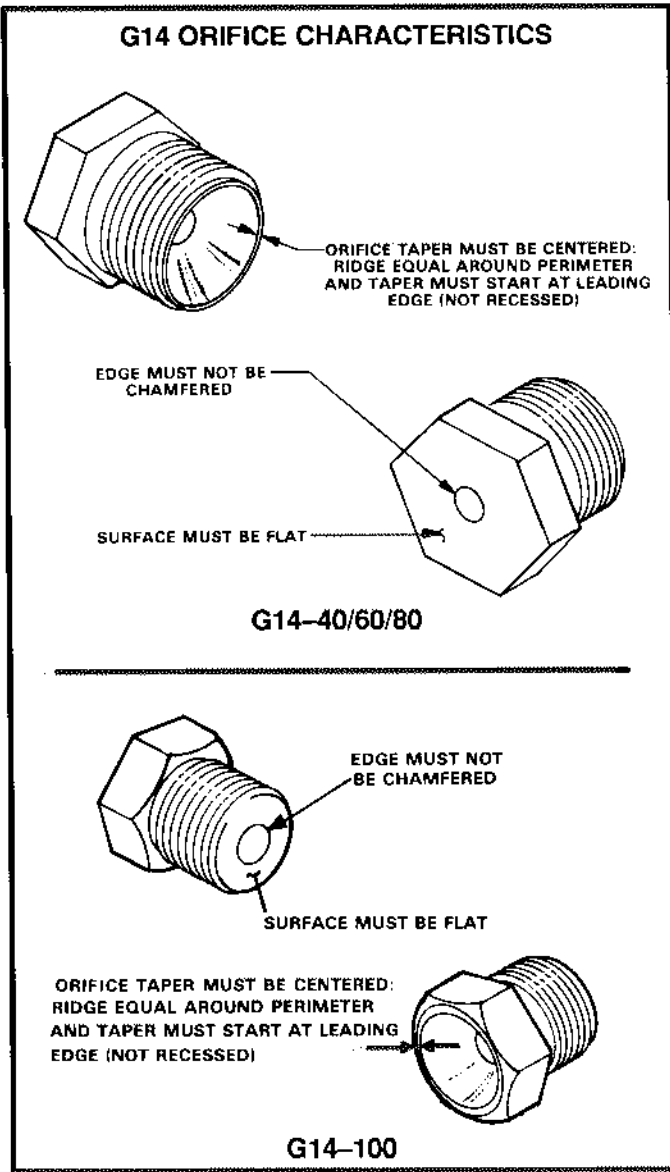
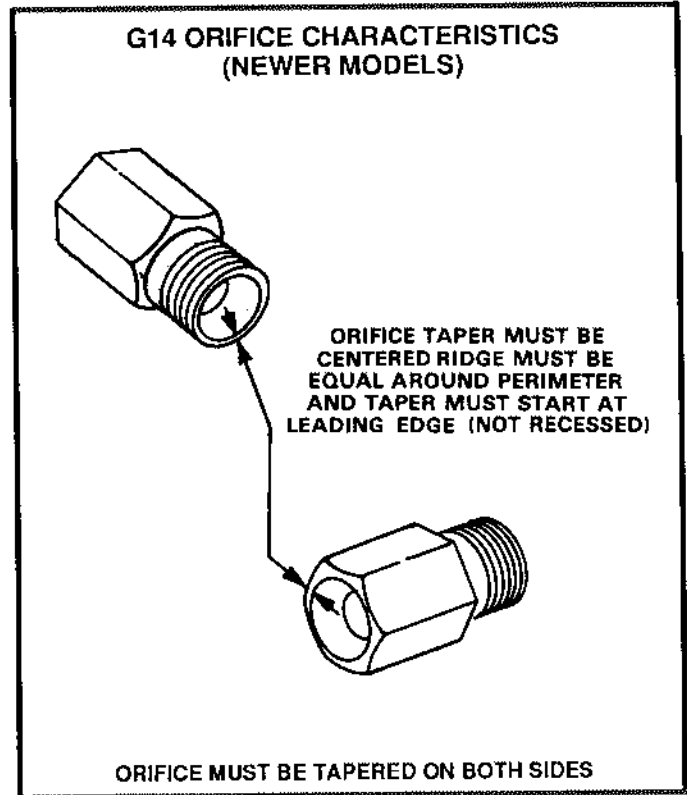

FIGURE 35
FIGURE 36
- 3- Refer to figures 35 and 36 for the physical characteristics of the orifice. The surface must be flat and the orifice opening must not be chamfered. The orifice taper must be centered and not recessed. If any defects are found the orifice must be replaced.
In mid to late 1984, a double-tapered orifice was phased into G14 units. In early models, (those units produced before July 1984), the orifice was single-tapered as shown in figure 35. G14 units began using a double coned orifice primarily to improve operating characteristics. See figure 36. If the orifice needs replacing, it should be replaced with its like component.